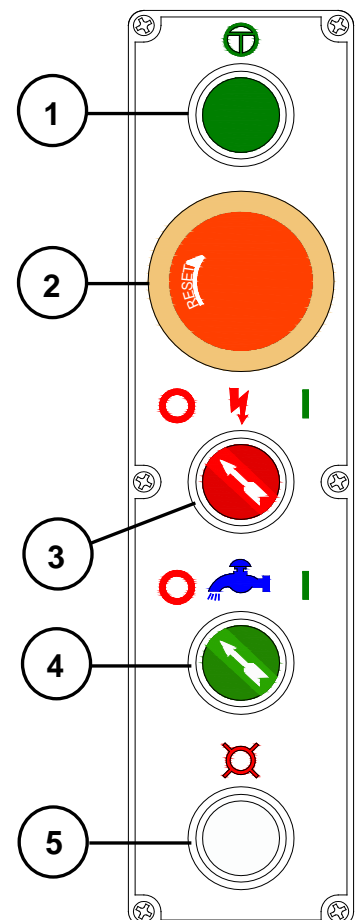

figure 27
**Note:** If any of the 3 handles offer resistance when shifting, briefly press the jog button (1) in (fig. 27) to line up the gears and allow the handle to shift.